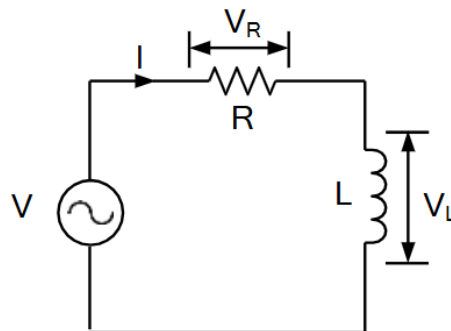

Figure 7
- Simulate the circuit given in Figure 7 using the **Proteus** program and take its image with the oscilloscope image. (R=5 ohms, L=10 mH, 10VRMS, 50 Hz)